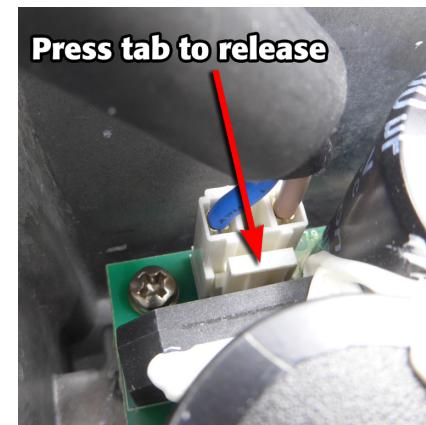

Figure 6.2.4 - AC wiring harness
8. Disconnect the AC wiring harness from AMP/PSU board by putting pressure on the locking tab and lifting the wiring harness up. See Figure 6.2.4.